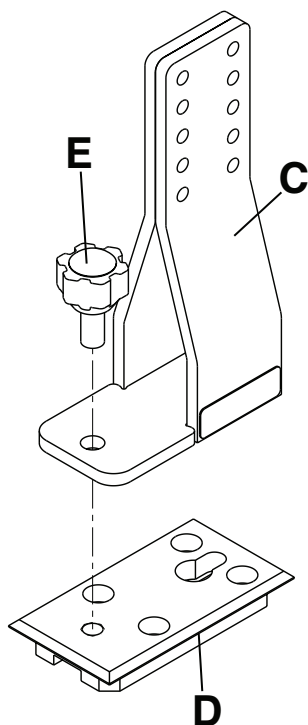

Figure 13 – Fasten the rail support bracket
8. Position the rail support bracket (C) over the floor mounting plate (D) (Figure 13).
10. Fasten securely by tightening one of the red knobs (E) (Figure 13).